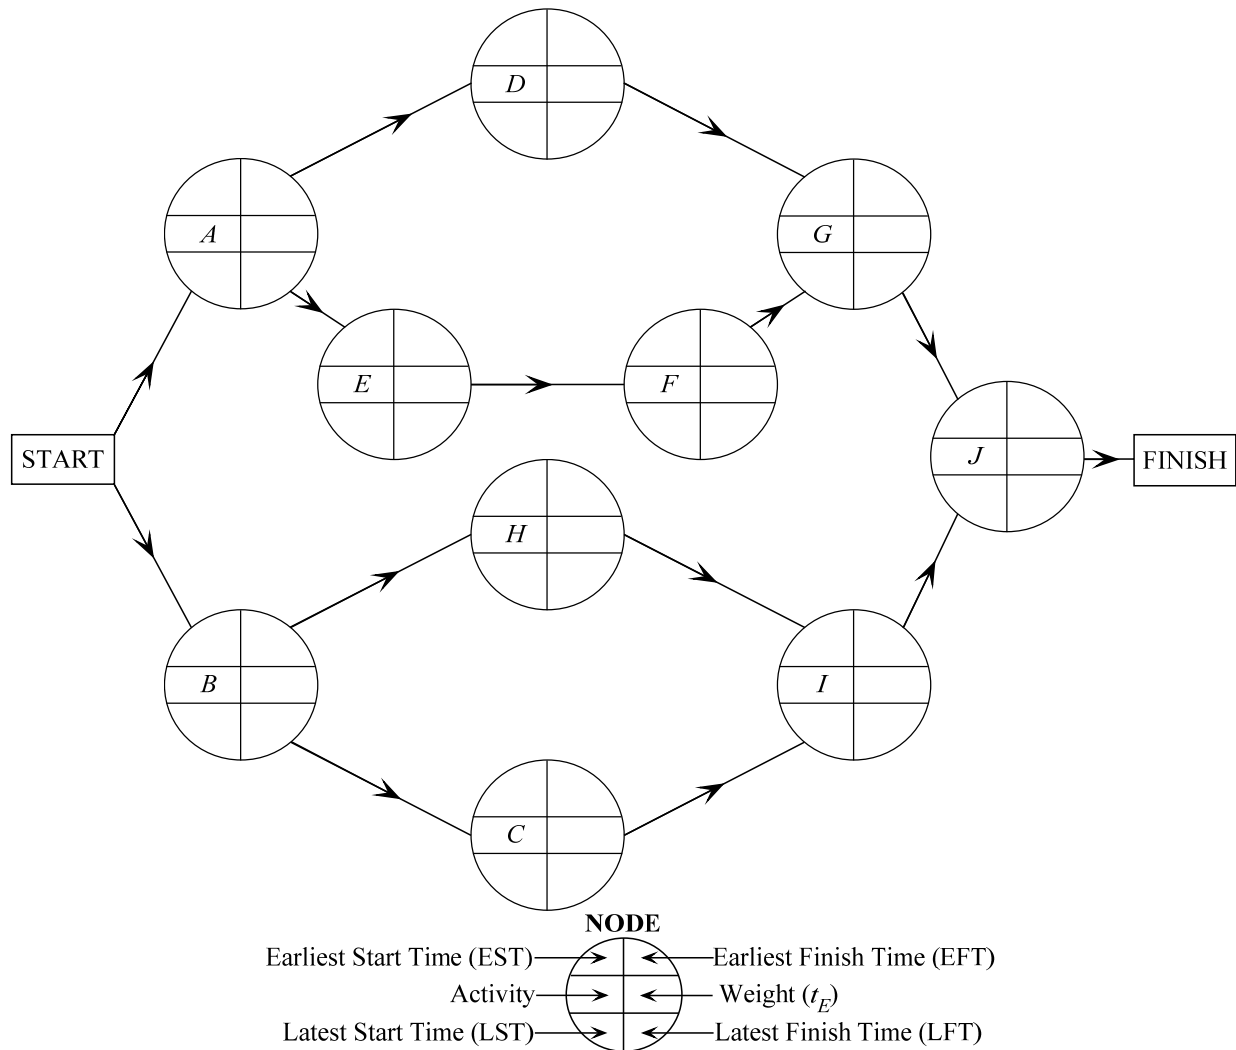

Figure 19.1.1: Order-requirement digraph representing preparing a taco dinner
Recall the “Preparing a Taco Dinner” problem from Chapter 10. In the original problem, Maya and her friends are given exact completion times for each activity based upon the average time it takes for different chefs to prepare this meal (see Figure 19.1.1). Maya uses CPM to determine the start and finish times of each activity, and she finds the critical path of activities needed to get the dinner cooked and served. The steps of CPM are reviewed below.
Next, Maya creates an order-requirement digraph modeling the activity dependence of preparing a taco dinner project, as shown in Figure 19.1.1. She uses the t_E time (rather than the most probable time) as the weight of each node. From there, she can find the critical path of the project and the estimated project completion time.
- Q5. Using Figure 19.1.1, fill in the expected times (t_E) as the weight of the order-requirement digraph.